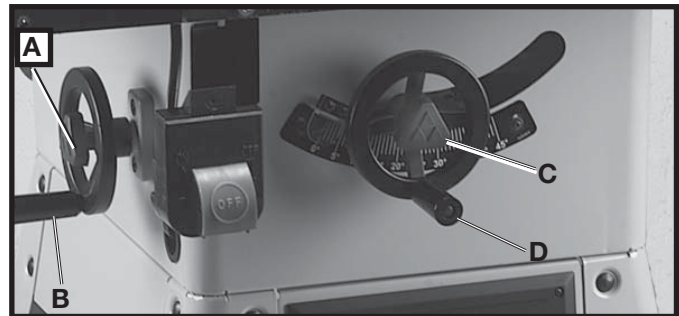
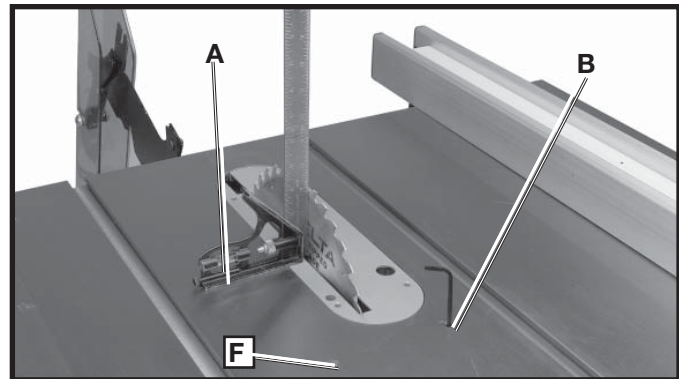

Fig. 59
Fig. 60
To raise the saw blade, loosen lock knob (C) Fig. 59, and turn the blade raising handwheel (D) clockwise. When the blade is at the desired height, tighten lock knob (C).
2. Set the blade at 90 degrees to the table by turning the blade tilting handwheel (B) Fig. 59 counterclockwise as far as it will go.
3. Using a combination square (A) Fig. 60, check to see if the blade is at 90 degrees to the table surface as shown.
4. If the blade is not at 90 degrees to the table, move the blade off of the stop by turning the handwheel (B) Fig. 59 one turn clockwise. Loosen set screw (F) Fig. 60 with a 4mm hex wrench. Turn the blade tilting handwheel until the blade is at 90 degrees to the table. Tighten set screw (F) until it bottoms.
7. If the blade is not at 45 degrees to the table, move the blade off of the stop by turning the handwheel (B) Fig. 59 one turn counter-clockwise. Loosen set screw (B) Fig. 60, and turn blade tilting handwheel until the blade is 45 degrees to the table. Tighten set screw (B) until it bottoms.